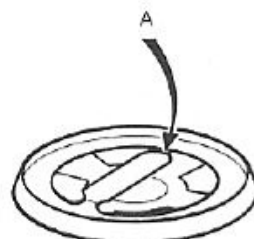

Fig. 2. The valve (inlet and outlet). A = 1.6 mm ( $\frac{1}{16}$  in)
- 2 Examine the plastic valve assemblies (see Fig. 2) for kinks or damage to the valve plates. They can best be checked by blowing and sucking with the mouth.